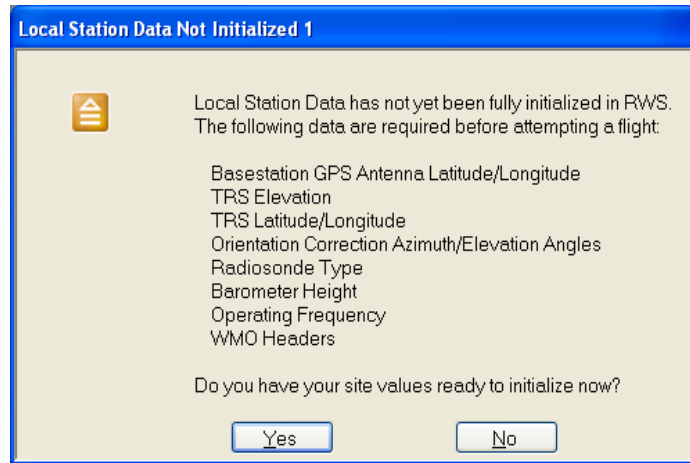
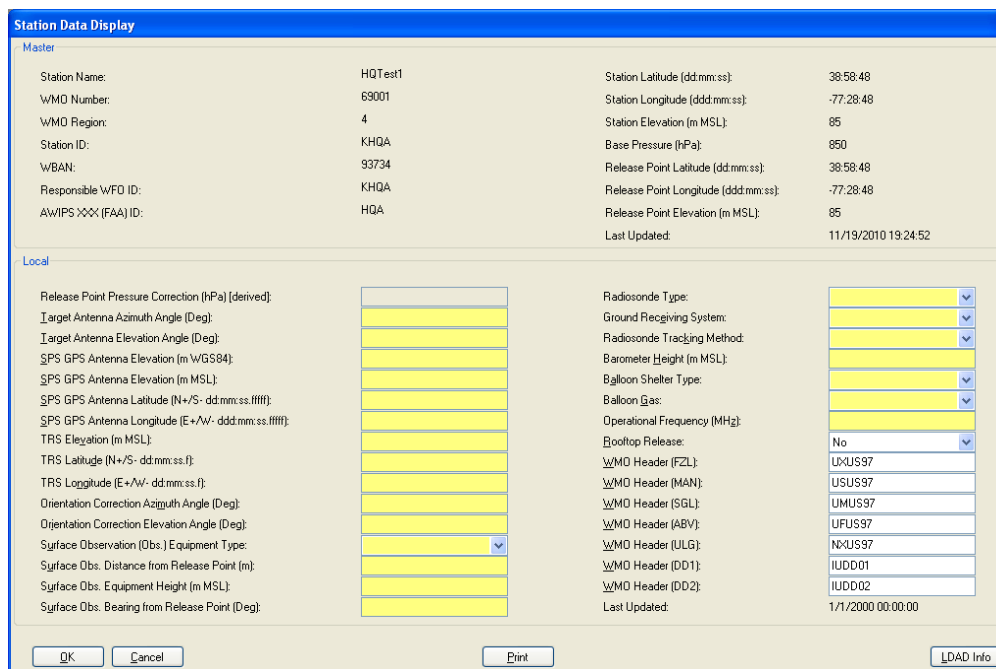

Figure A-16: Local Station Data Not Initialized 1 Window
Figure A-17: Station Data Display (Example Only)
- If the *Local Station Data Not Initialized 1* window is displayed (Figure A-16), click **Yes** to open the *Station Data Display* (Figure A-17).
2. Enter the values recorded in Section A.2.5.2 for the field values missing from the *Station Data Display* (Figure A-17).